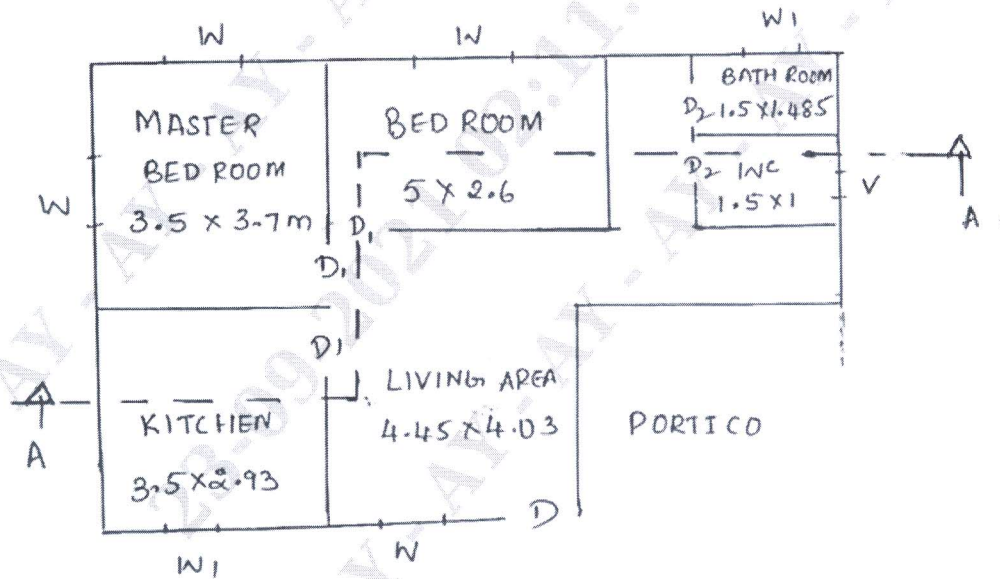

Figure Q6
- Q6 Line diagram of Single Storey residential building is given in **Figure Q6**. Draw to scale the following: